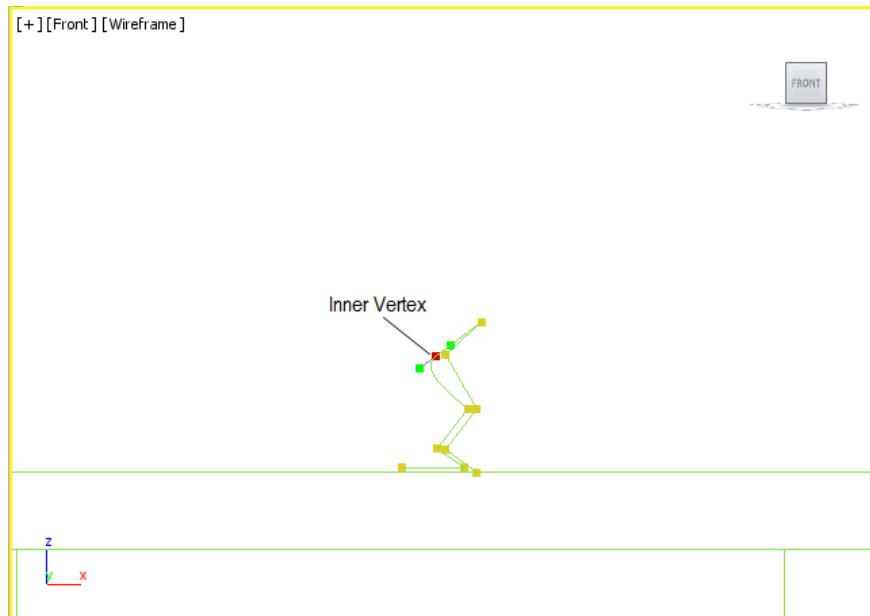

**Figure 5-11** The profile of the Jug
7. Right-click to exit the **Line** tool; a double-line profile of the jug is created. Use the **Zoom** and **Pan** tools, if needed, to display the entire profile of the jug, refer to Figure 5-11.